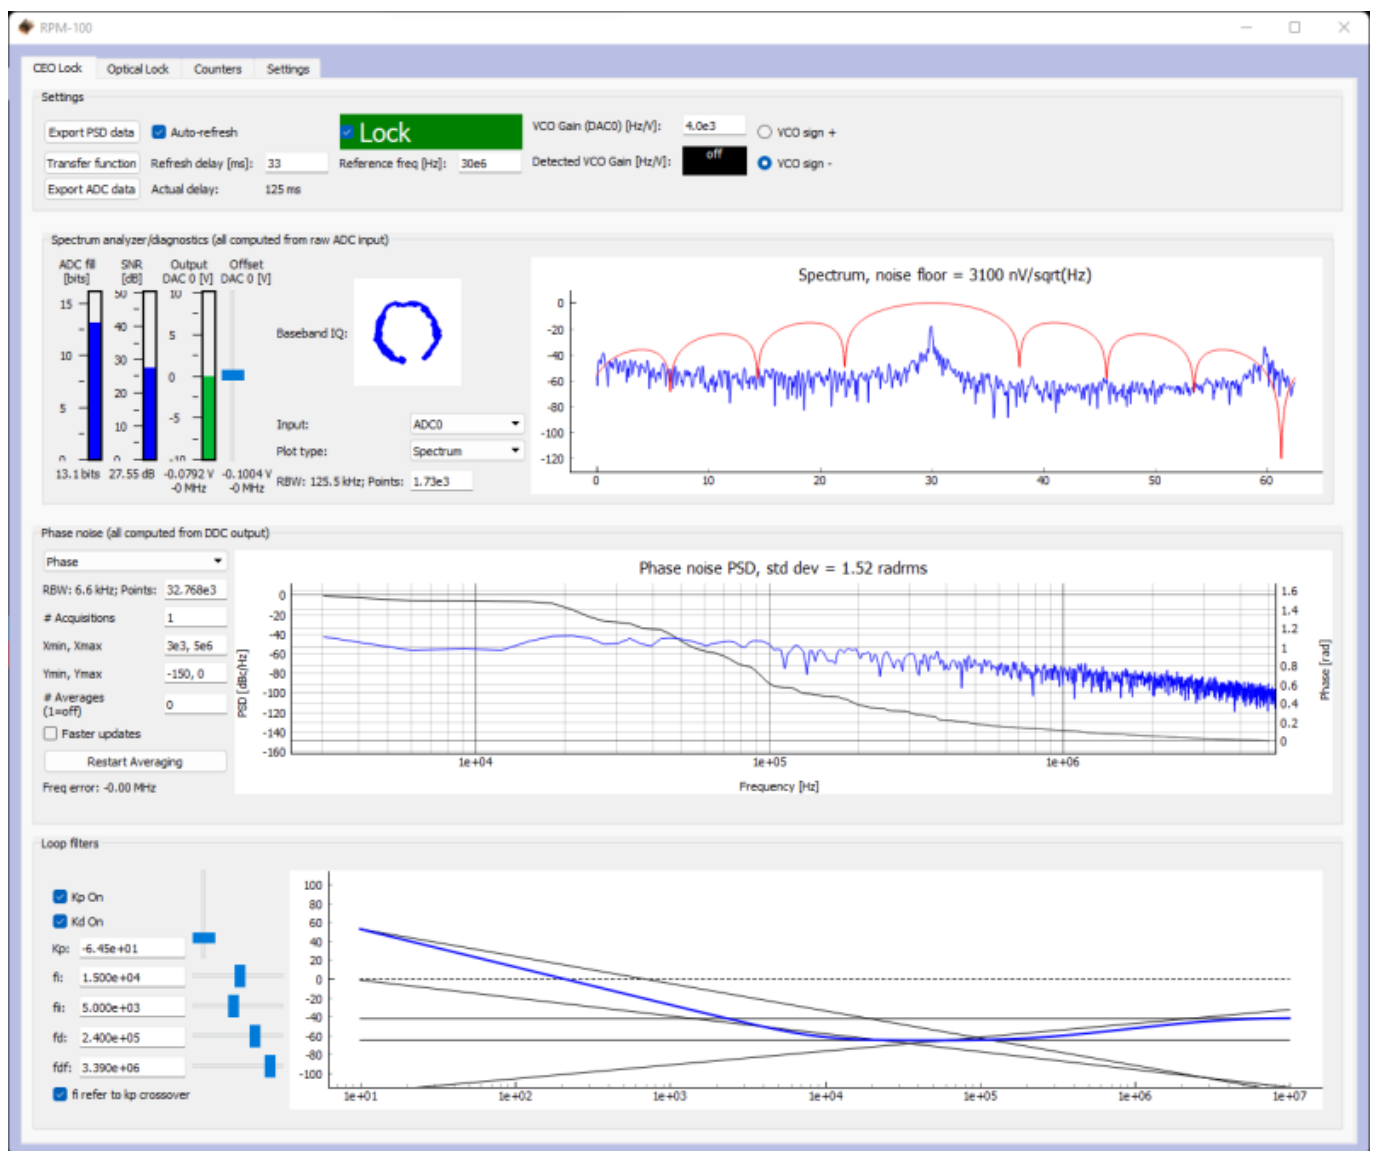

Fig. 10: Locking $f(\text{CEO})$
1. Press the “Lock” button (figure 10, top middle). If the system doesn’t lock, change the VCO sign to the opposite polarity (top right) and try again. A warning may occur if the selected VCO sign is incorrect. If the system still won’t lock, try lowering the K_p value (bottom left).